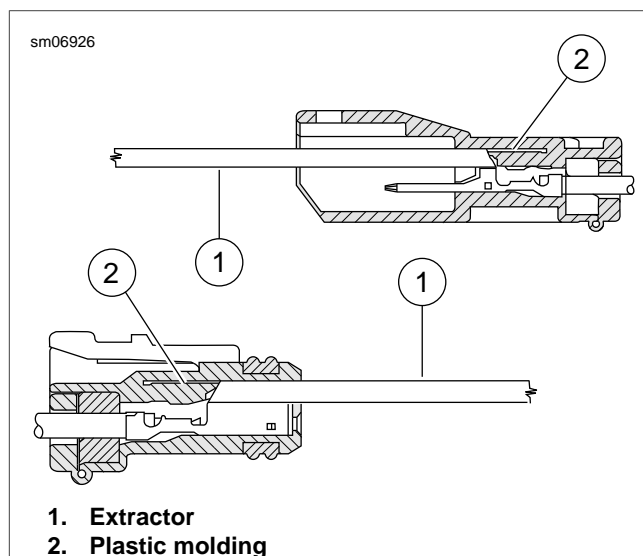

Figure A-40. JAE MX19 Terminal Removal
2. See Figure A-40. Insert the extractor (1) into the opening above the terminal and press the plastic molding (2) up and out of the way.